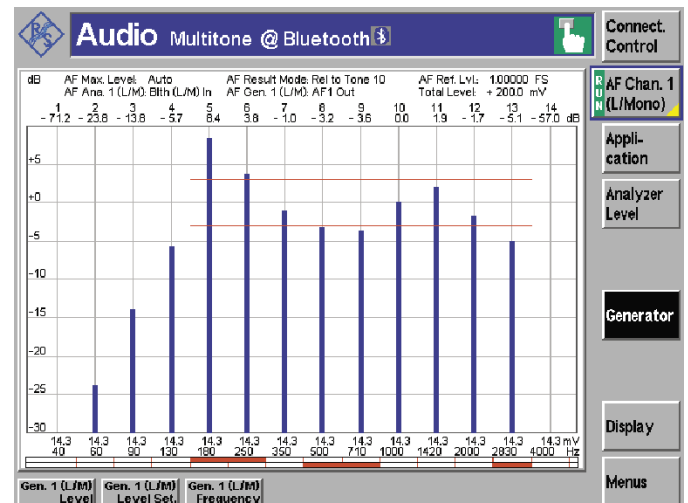

FIG 4 Frequency response measurement of a built-in microphone.
The R&S®CBT can measure the frequency response very quickly with the aid of a multitone signal (FIG 4). The individual frequencies and limit values are user-definable. In addition to the peak and RMS levels, the Bluetooth® tester also measures a variety of distortion figures in single-tone mode. It displays all absolute levels referenced to the maximum digital signal level using the full scale (FS) unit.